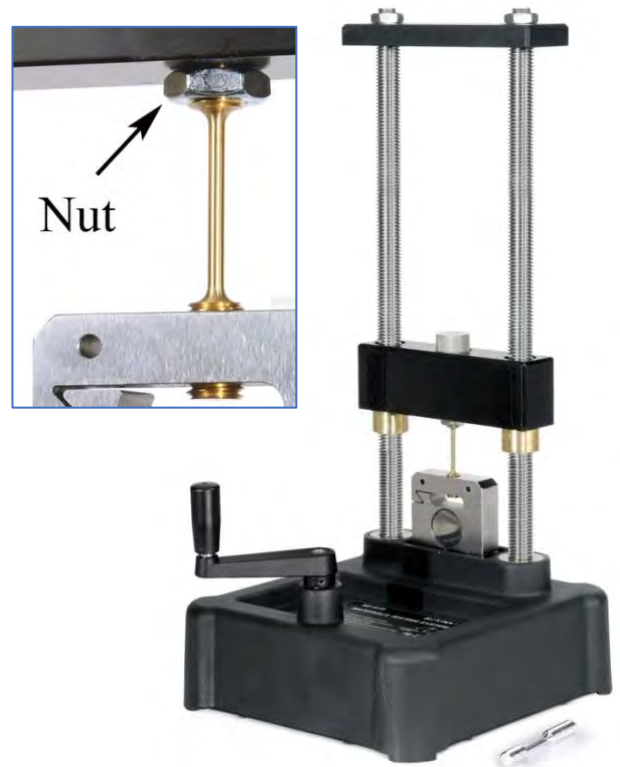

Figure 1: Column Buckling "Tensile" Samples
4. Use Eqn. (2) to calculate the Area Moment of Inertia for the sample.
5. Install the Brass Tensile Sample as shown in Figure 1. Note the use of the compression nut from the Calibration Rod.